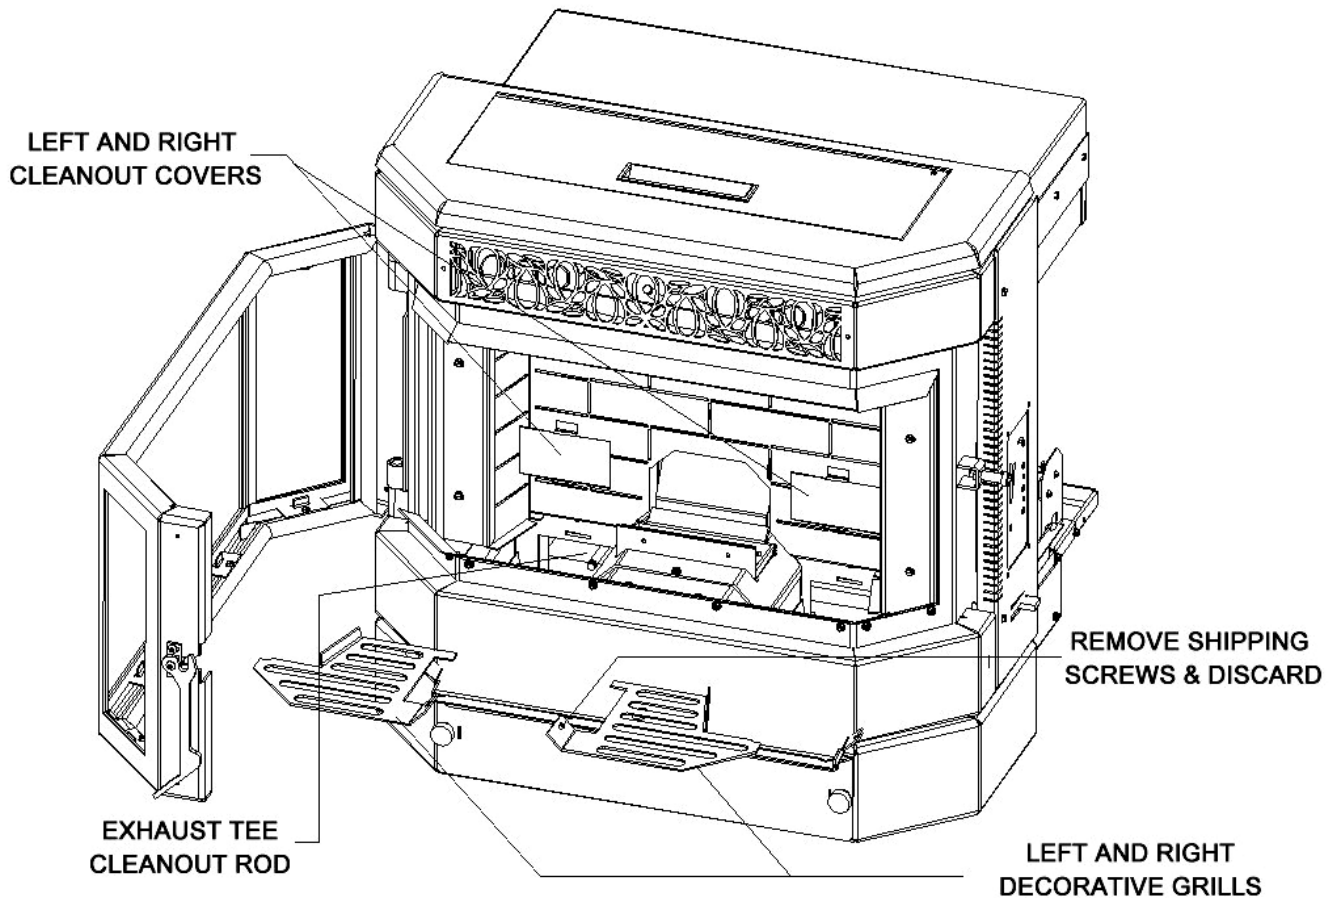
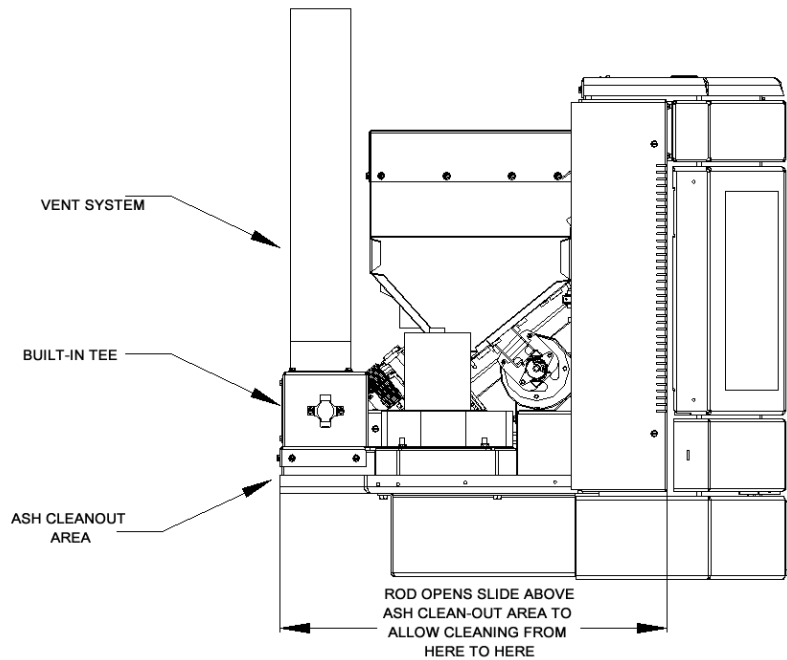

Figure 28
Figure 29
Figure 28 also shows the location of the Exhaust Tee clean-out rod. The insert has a built in cleanout to be able to vacuum the buildup that accumulates in the vent system from the front of the unit without having to pull the unit from the fireplace. Figure 29 shows the area that can be reached with a vacuum cleaner without having to pull the insert from the fireplace. The Exhaust Tee Cleanout Rod must be pulled forward to open the Cleanout Tee. Cleaning this area on a regular basis will prevent the vent system from becoming plugged with fly-ash. The recommended size of the hose to use for vacuuming this area is 1.25" outside diameter. The hose should be inserted into the left Cleanout Port and vacuum all the way back to below the built in Tee as shown in Figure 29. ***Push the Rod back in to close the bottom of the Cleanout Tee.***
2. **Exhaust System.** See Figure 28 and 29 for information on cleaning fly ash that collects in the vent system. Periodic cleaning of the exhaust system is required. Under certain conditions
1. **Spring Shutdown.** After the last burn in the spring let the unit cool down. Remove all fuel from the hopper and the auger. Thoroughly clean the burn pot, burn pot box, ash pan and ash traps behind the ash pan. (To locate the ash traps see figure 28)